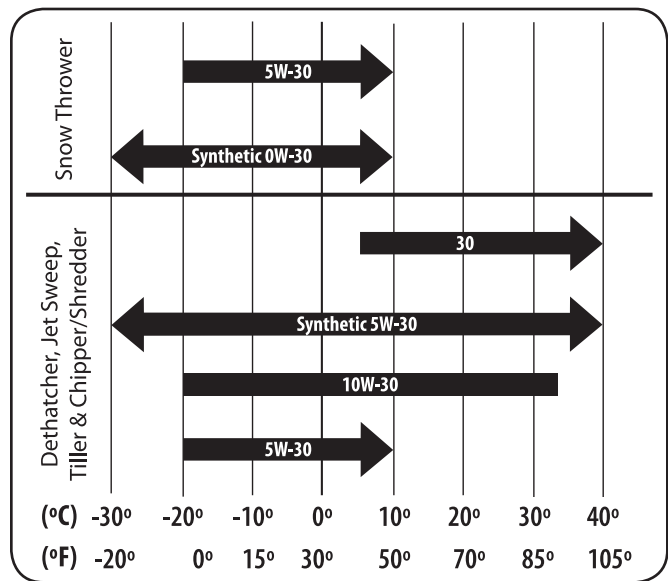

Figure 6-1
Refer to the viscosity chart (Figure 6-1) for oil recommendations. Do not over-fill. Use a 4-stroke, or an equivalent high detergent, premium quality motor oil certified to meet or exceed U.S. automobile manufacturer's requirements for service classification of a minimum level SF or SG (higher letter ratings are acceptable such as SJ, SL and SM grades). Motor oil will display this designation on the container.
12. Fill with the recommended Oil. See Figure 6-1.